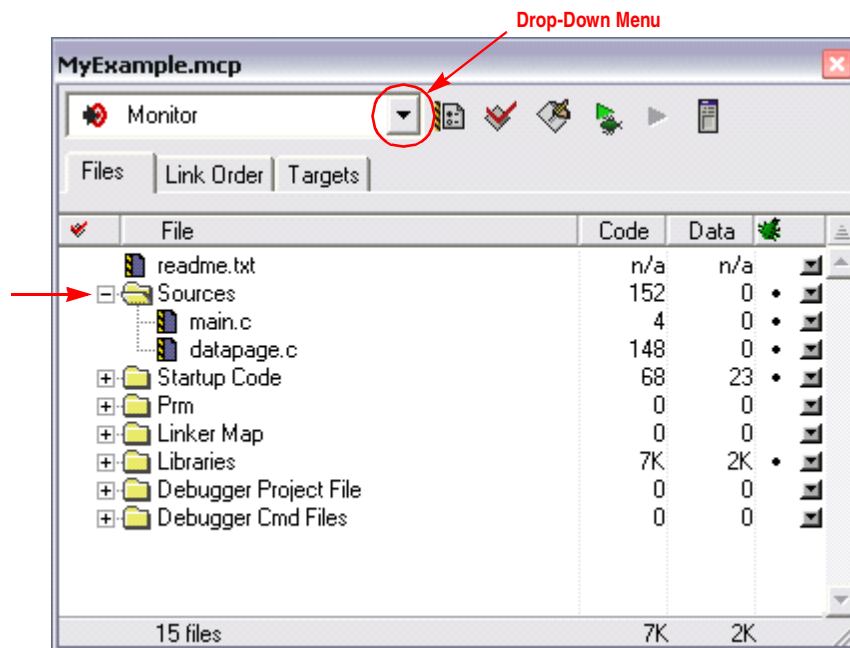

Figure 6. Project Window
- s. Click “Finish” — the wizard creates a new project based on information you specified. A project window will appear, docked at left side of main window (see Figure 6)
- a. Click the drop-down menu of the project window (see Figure 6)
- a. Click the “+” sign next to the “sources” folder to reveal files (see Figure 6)